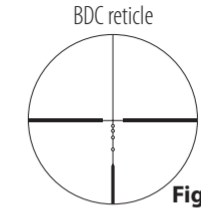
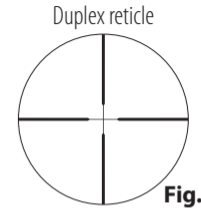
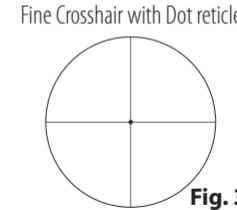
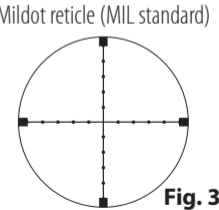

Fig. 3-4
Fig. 3-5
Fig. 3-6
Fig. 3-7
(2) Focusing
- ① Look through the eyepiece with your eye positioned about 10 cm (4 in) away from the eyepiece to see the BDC reticle (Fig. 3-4), the Duplex reticle (Fig. 3-5), the Fine Crosshair w/Dot reticle (Fig. 3-6), or the Mildot reticle (MILstandard) (Fig. 3-7). Be sure your eye is positioned with proper alignment and with proper eye relief, otherwise the view will “black out.”
- ② Point the objective end of the scope at the sky (NOT point it at the sun) or at a plain unpatterned wall.
- ③ Turn the eyepiece adjustment counter-clockwise and then turn it clockwise until the reticle appears sharp.
(3) Magnification
With the turret held with your fingers to avoid shifting of the aligned scale ring, turn the screw in the top of the turret counter-clockwise with the supplied hex key ① until the screw comes out. Then remove the turret (Fig. 3-5).